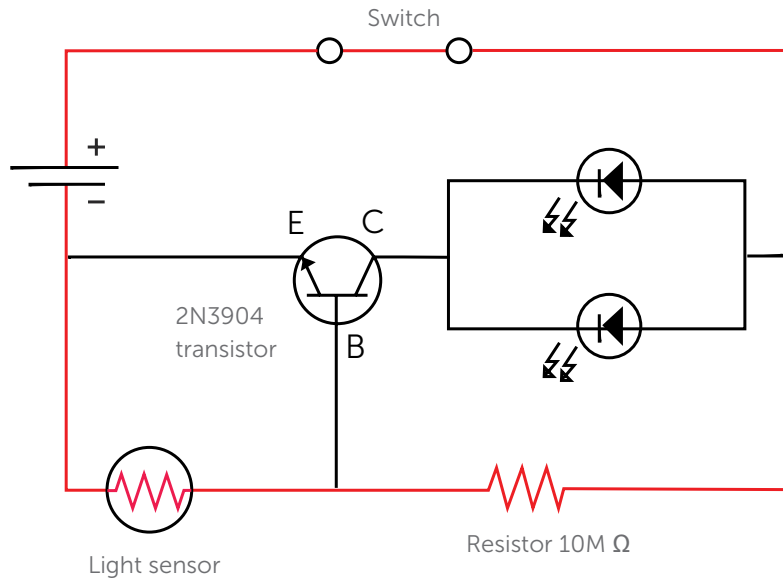

FIGURE 7.6: Dark-detecting circuit in the light
Figure 7.6. It goes through the $10\text{M } \Omega$ resistor and the photo-cell. $10\text{M } \Omega$ is short for 10 megaohms, or 1,000,000 ohms. This high-resistance resistor prevents too much current from running through the circuit. Notice that the current is not flowing to the base (labeled B in the figure) of the transistor, so current won't flow through the collector (C) and emitter (E), and, therefore, the LEDs will not turn on.